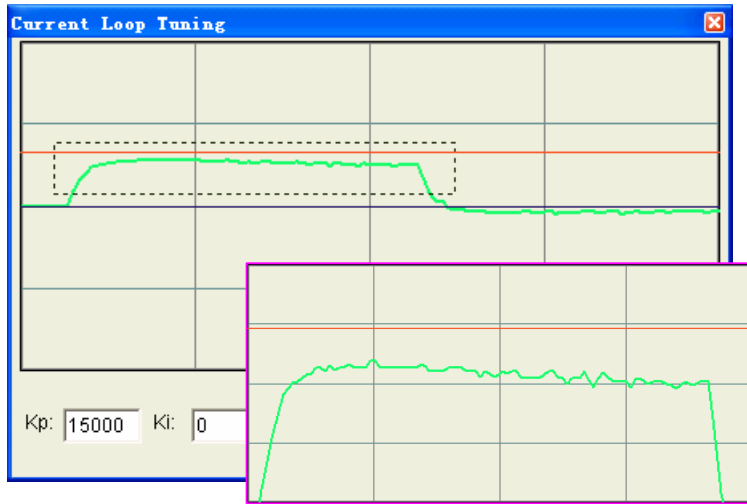

Figure3-5: Drag a rectangle to zoom in the steady error
Step 5: Now K_p is relative good enough. But there is still gap between the green curve and the red curve when we use the mouse to zoom in it as shown in figure 3-5. There is also big vibration, which will cause motor noise, on the green curve. So we need to introduce K_i , the integral gain to reduce the “gap” or steady error at the constant part. It follows the same procedure as K_p . Too high K_i will causes big vibration, system lag and makes the performance worse. See figure 3-6 for this procedure. Increase K_i until the gap can be accepted and not causes much vibration.